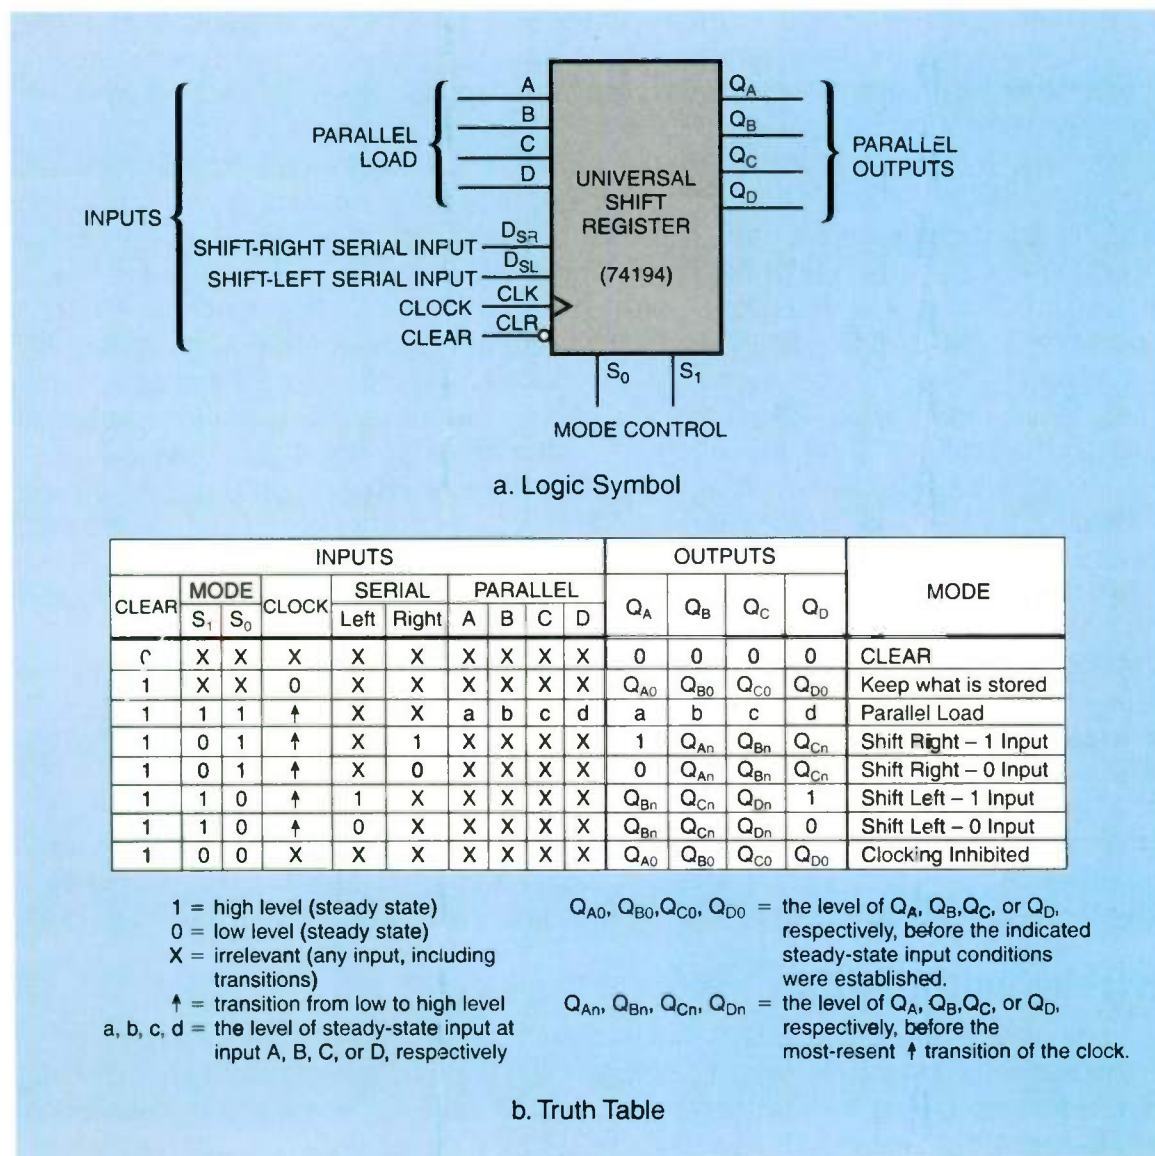

Figure 4-10. A 4-bit universal shift register that operates in modes determined by binary code on  $S_0$  and  $S_1$  inputs.
The 74194 shown in *Figure 4-10* is a universal shift register. All of the functions we've talked about are contained in one integrated circuit (IC). The type of function is selected by two mode control bits,  $S_0$  and  $S_1$ . Special gates included in the IC provide the control. For example, bidirectional shifting (right or left) is controlled by setting  $S_0 = 1$  and  $S_1 = 0$  (shift right) or  $S_0 = 0$  and  $S_1 = 1$  (shift left). Other modes — parallel load and clocking inhibited — can be selected. Parallel output is available, and if serial data is to be inputted, data is placed on the respective input line. The logic symbol and a truth table are included in *Figure 4-10*.